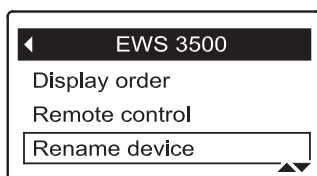

FIG. 125
2. Press the remote's SELECT (O) button to display the device menu.
3. Press the DOWN (▼) button to scroll through the menu options until **Rename device** is highlighted in a box (See Figure 125).
8. Press the SELECT (O) button. The character you picked is added to the upper line.
9. To select the next character, return to Step 7. When finished entering the device name, press the UP (▲) button to switch to the upper line, then press SELECT (O) to go back to the device menu (Figure 125).